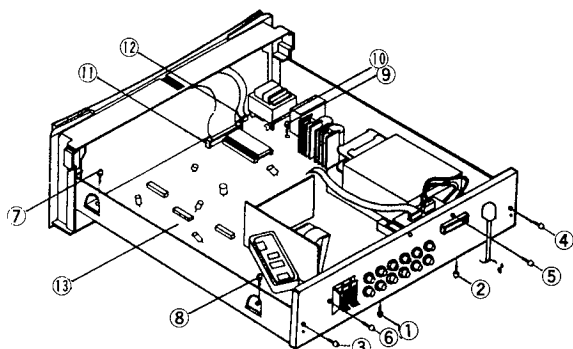

Fig. 2
1. Remove screws ① to ⑥ in Fig. 2, and then remove the rear panel.
1. Remove the rear panel in Fig. 2(Refer to step 2)
2. Remove connectors ① to ⑫ in Fig. 2, and then remove pcb supports ⑩
3. Remove screws ⑦ to ⑨ in Fig. 2, and then remove the main pcb ⑬